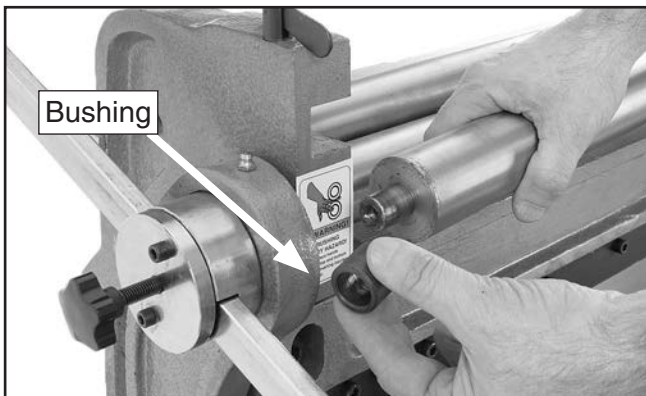

Figure 49. Left bushing removal.
2. Remove both upper roller bushings (**Figures 49 and 50**).